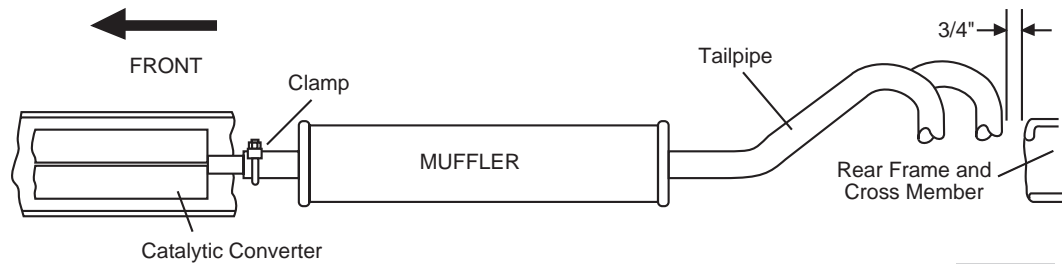

fig. 5
*A slight adjustment MAY be required to gain enough clearance to install the heat shield (Figure 5). Loosen the exhaust clamp between the muffler and the catalytic converter. Push the muffler and tailpipe to the rear of the vehicle, retain a minimum of 3/4" between tail pipe and frame crossmember and retighten clamp.*